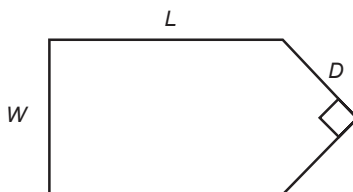

Figure P25
25. A fence around a field is shaped as shown in Figure P25. It consists of a rectangle of length L and width W and a right triangle that is symmetric about the central horizontal axis of the rectangle. Suppose the width W is known (in meters) and the enclosed area A is known (in square meters). Write a MATLAB script file in terms of the given variables W and A to determine the length L required so that the enclosed area is A . Also determine the total length of fence required. Test your script for the values $W = 6$ m and $A = 80$ m².